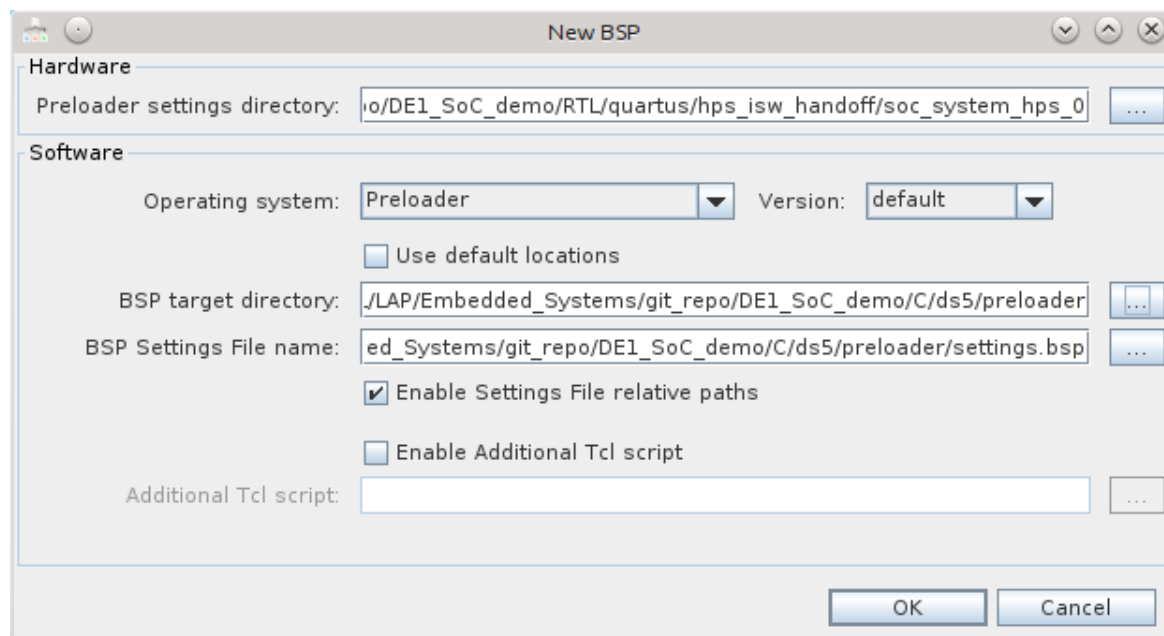

Figure 8-19. New BSP Dialog
- b. Disable the “Use default locations” checkbox and under the “BSP target directory”, select the “DE1\_SoC\_demo/C/ds5/preloader” directory. You should have something similar to Figure 8-19.